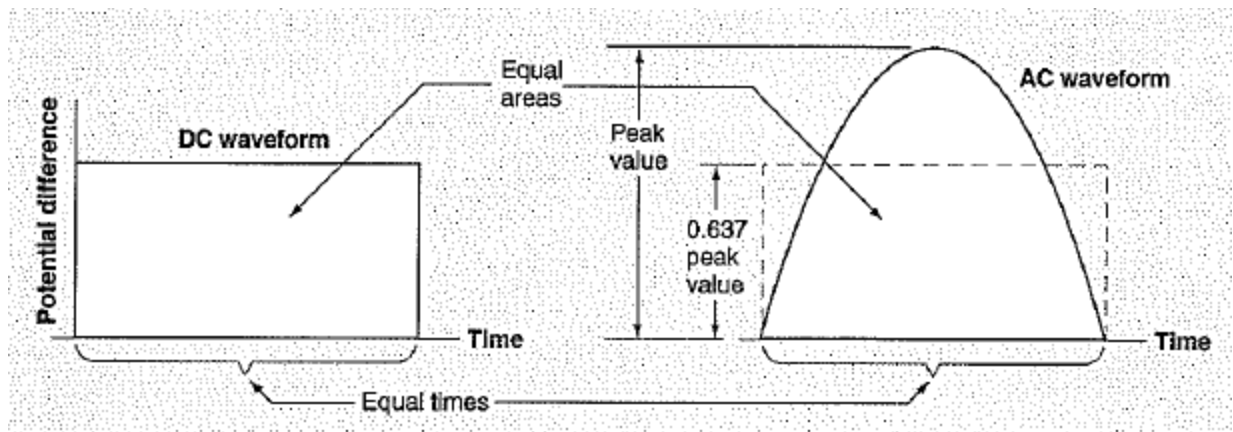

Figure 1.9: Average AC Potential Difference
- 1-44 Figure 1.9 shows such an area. When the curve is a sine curve, the height of the rectangle is 0.637 times the height at the peak of the curve.